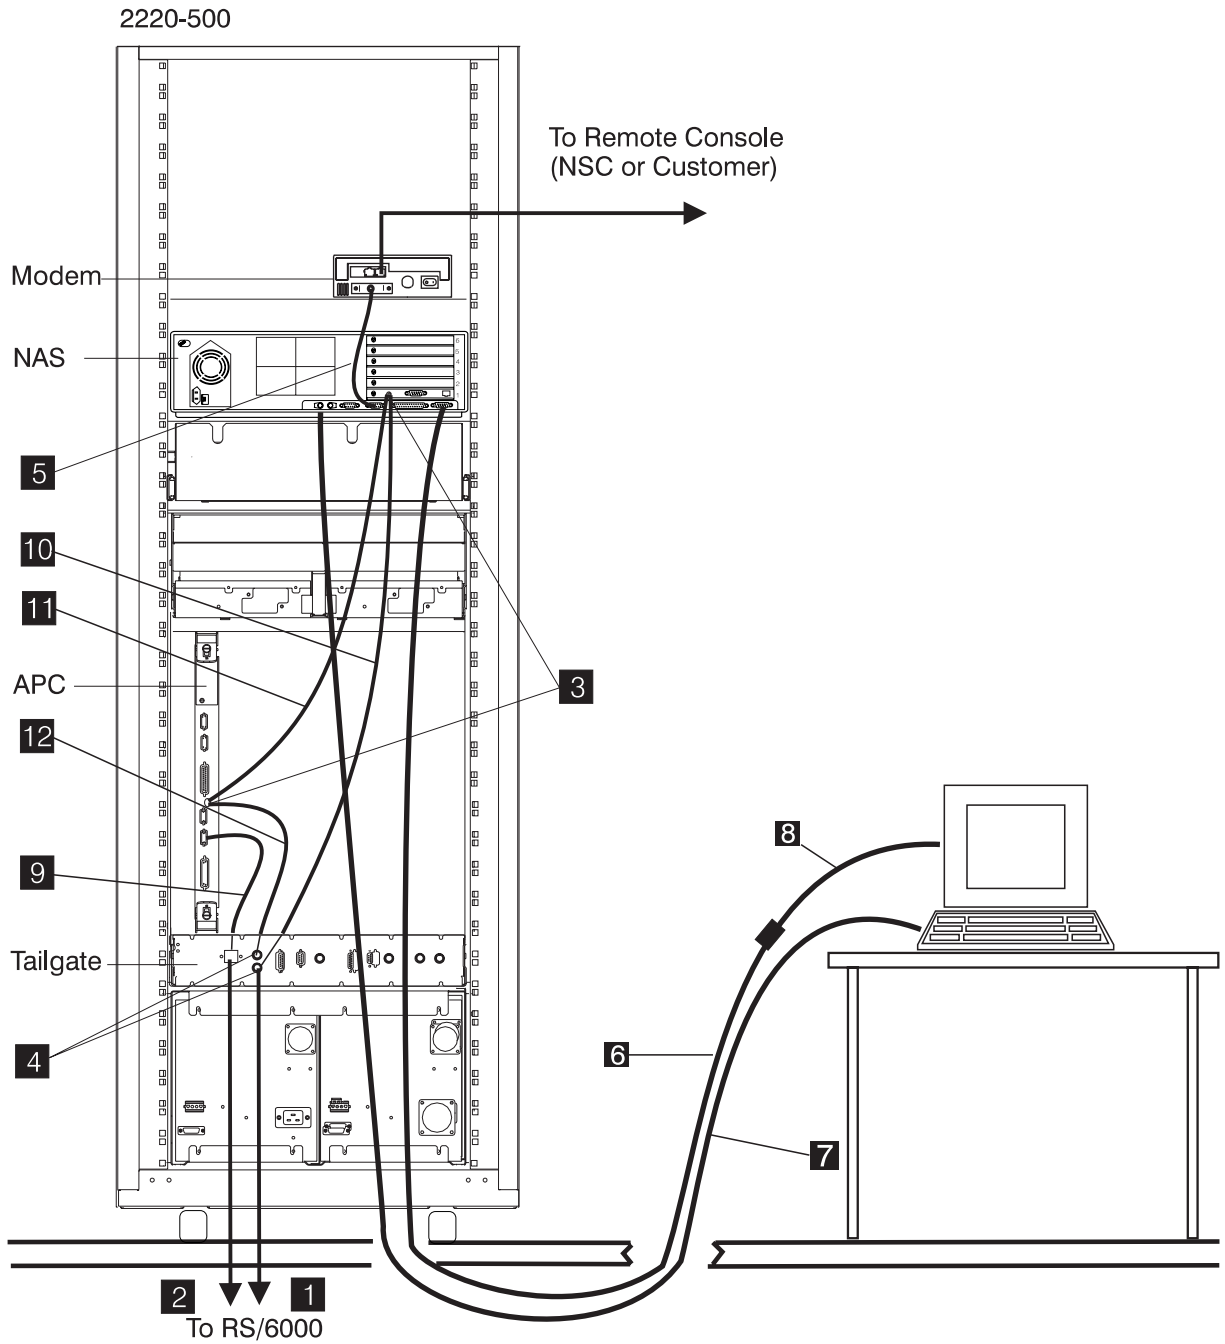
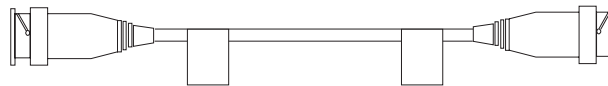
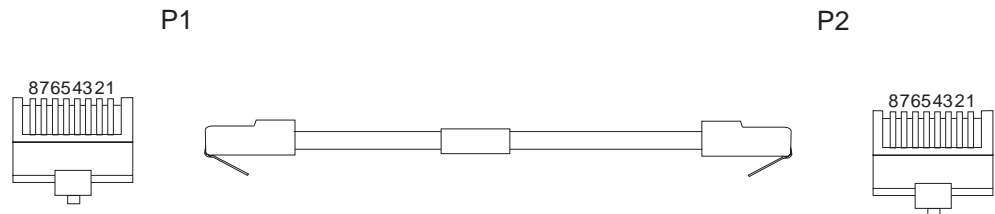

Figure 2-1. Nways Switch Administration Station Cables
Figure 2-3. 10Base2 or Thin Ethernet Cable
Figure 2-4. 10BaseT Cable
Figure 2-1 on page 2-2 shows the cables that are common to all Nways Switches. The communication line cables for the LICs are described in later sections.
- Ethernet 10Base2 or Thin Ethernet See Figure 2-3 and **1** in Figure 2-1 on page 2-2.
- Ethernet 10BaseT. See Figure 2-4 and **2** in Figure 2-1 on page 2-2.
Refer to Figure 2-1 on page 2-2 reference **3**.
Refer to Figure 2-1 on page 2-2 reference **4** .
Refer to Figure 2-1 on page 2-2 reference **10** , and **11** .
Refer to Figure 2-1 on page 2-2 reference **9** , and **12** .
Refer to Figure 2-1 on page 2-2 reference **5**.
Refer to Figure 2-1 on page 2-2 reference **6**.
Refer to Figure 2-1 on page 2-2 reference **7**.